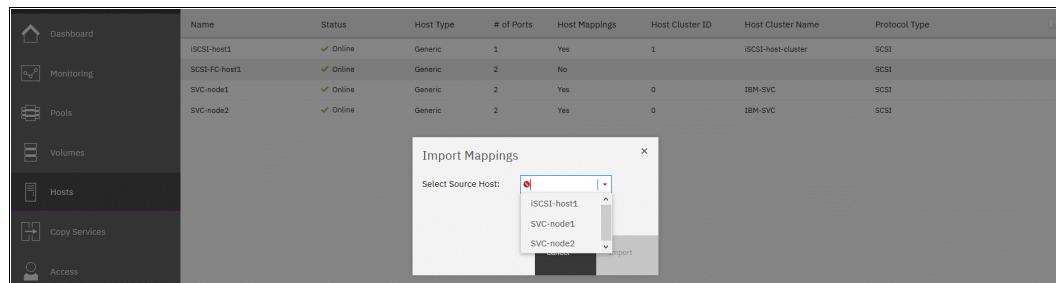

Figure 7-43 Import volume mappings source host selection
2. The Import Mappings window opens. Select the source host from which you want to import the volume mappings, as shown in Figure 7-43, and click **Import**.